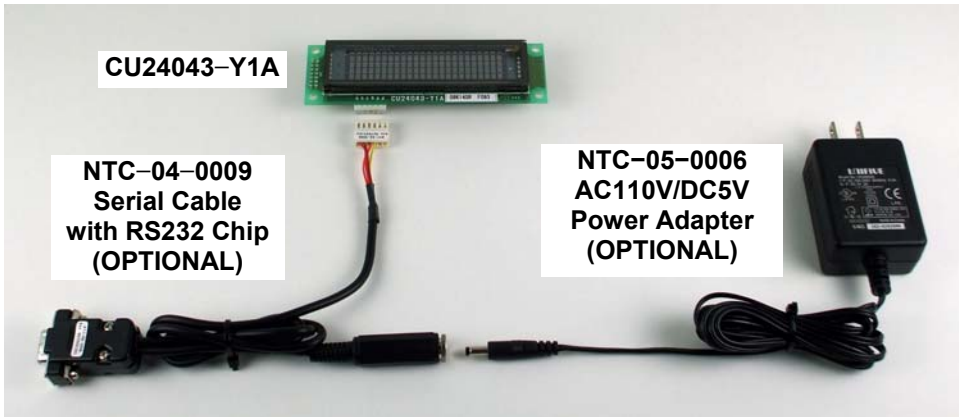

Fig. 2-3
1. Plug the NTC-04-0009 into an available RS232 serial port of a PC (Fig. 2-3). If your PC does not have serial ports, a USB to RS232 converter is required.
3. Connect the plug of NTC-05-0006 to the receptacle of the serial cable (Fig. 2-3).